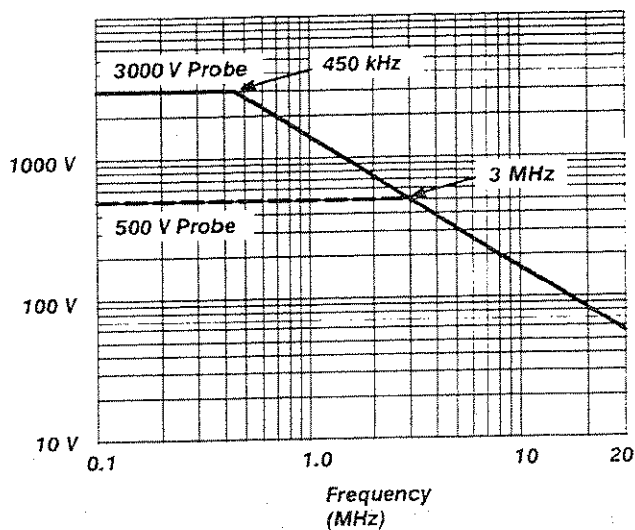
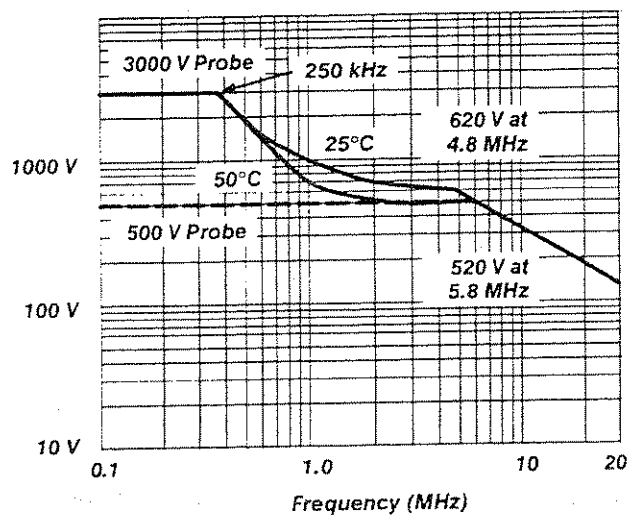

Figure 1-1: Maximum working voltage between probe input and probe common (all temperature).
Figure 1-2: Maximum working voltage between probe common and earth ground.
| Maximum working voltage ^a Large probe (3000 V UL) Probe center tip to earth ground Probe center tip to probe common (DC) Probe common to earth ground Small probe (500 V) Probe center tip to earth ground Probe center tip to probe common Probe common to earth ground | 3000 V (dc + peak ac), UL ^b 3000 V (dc + peak ac), to 450 kHz, UL ^b 3000 V (dc + peak ac), to 250 kHz, UL ^b 500 V (dc + peak ac) 500 V (dc + peak ac), to 3 MHz 500 V (dc + peak ac), to 6 MHz | For above 450 kHz, see figure 1-1. With AC/COMMON/DC switch in DC. For above 250 kHz, see figure 1-2. For above 3 MHz, see figure 1-1. For above 250 kHz, see figure 1-2. |